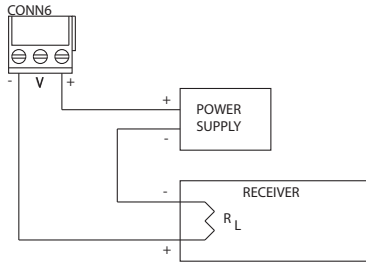
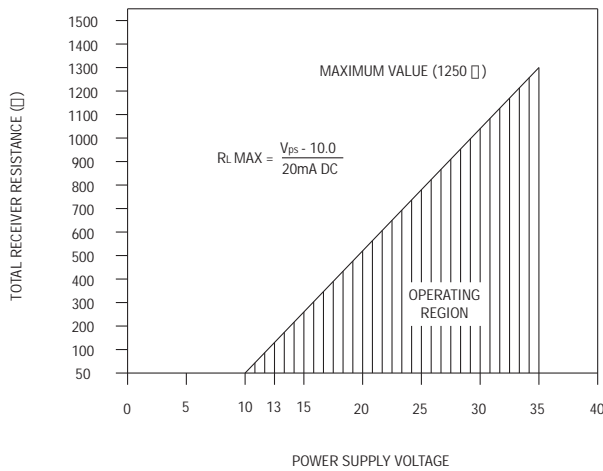

Figure 1
Figure 2
An external power supply delivering 10 to 35 VDC with a minimum current capability of 40 milliamps must be used to power the control loop in which the 616OT transmitter is connected. Refer to Fig. 1 for connection of the power supply, transmitter and receiver. The range of appropriate receiver load resistances (RL) for the power supply voltage available is given by the formula and graph in Fig. 2. Shielded two wire cable is recommended for control loop wiring and the negative side of the loop may be grounded if desired. Note also that the receiver may be connected in either the negative or positive side of the loop, whichever is most convenient. Should polarity of the transmitter or receiver be inadvertently reversed, the loop will not function properly but no damage will be done to the transmitter.